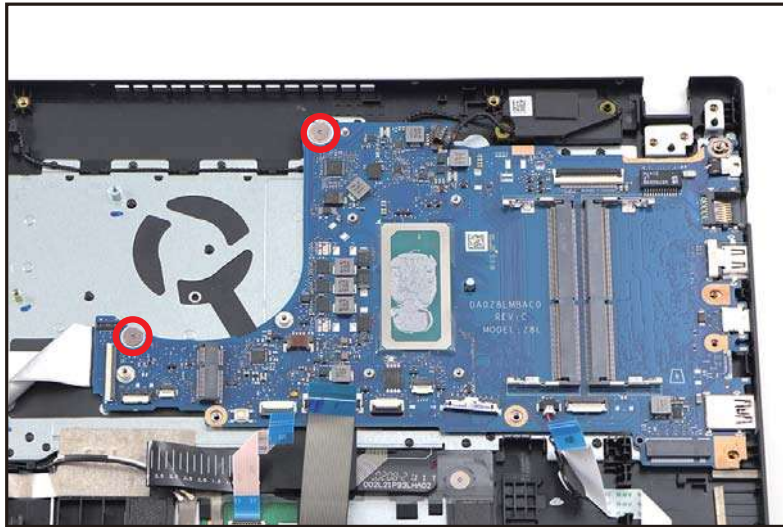

Figure 3-39. Mainboard Removal
8. Remove two (2) screws securing the mainboard (Figure 3-39).